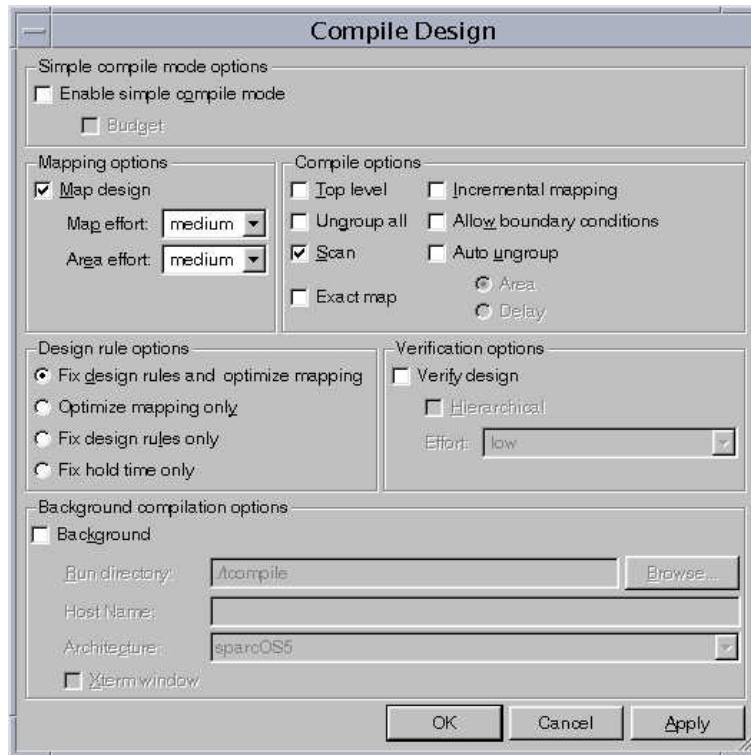

Figure 4-21 Compile Design window.
1. Click on **Design→Compile Design...** on the **Design Vision** window. The Compile Design window appears as shown in figure 4-21.